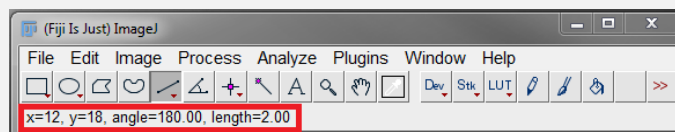

Figure 1.4: Line tool selection and values.
4. Perform a resize to 30 x 30 pixels (150% size), with no interpolation, and compare the result with the original figure. Use the **Line-Tool** (see fig. 1.4) to measure the width of both vertical lines. You should observe that one line was not scaled while the other was scaled to 150%.